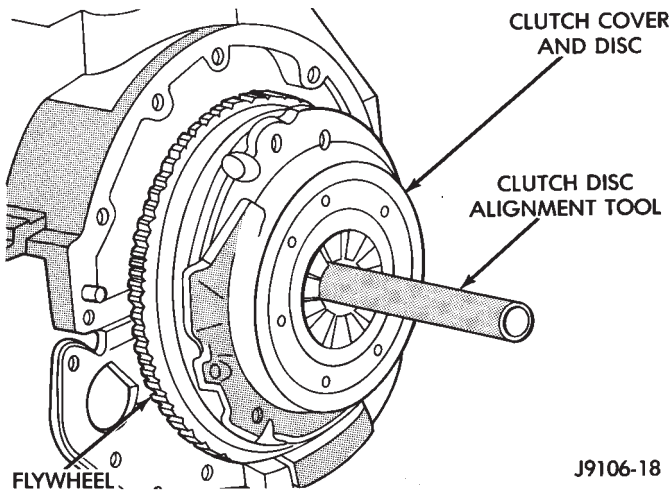

Fig. 3 Clutch Disc Alignment—Typical PILOT BEARING
(5) Insert clutch alignment tool (Fig. 3) in clutch disc and pilot bearing.